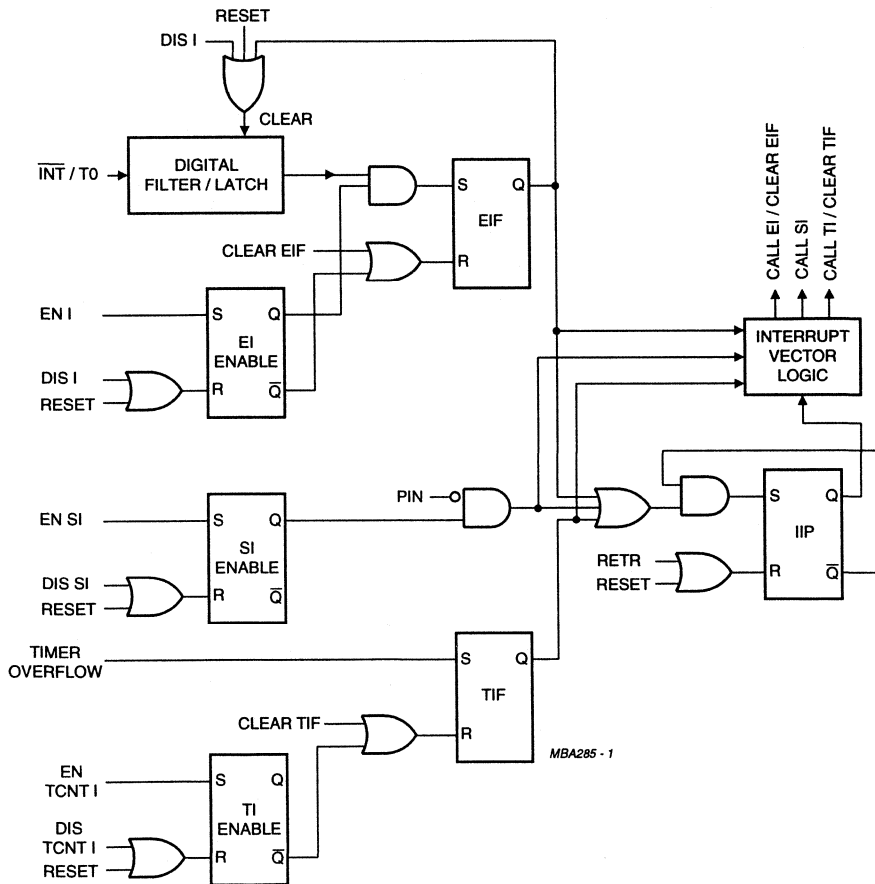

Fig.7 Simplified interrupt logic schematic (the R input overrules the S input for all flags).
An interrupt request is only sensed if the corresponding enable flag is set (see Fig.7). When the request is honoured, the contents of the Program Counter and bits 4, 6 and 7 of the Program Status Word are saved on the Program Counter stack. The Program Counter is loaded with the appropriate interrupt vector, thereby indicating the beginning of the interrupt routine. Since the Accumulator is not automatically saved, it must be saved and restored by user software. The interrupt routine must be terminated by the RETR (return and restore) instruction. At least one instruction of the main program will then be executed before another interrupt routine is entered. To avoid erroneous real-time programs, a few words of caution:
- Subroutines and nested subroutines called from the interrupt routine must all end with RET since RETR clears the Interrupt In Progress flag (IIP), as a side-effect (see Figs 7 and 8). Further pending interrupts would then interfere with the interrupt routine in progress.
A HIGH-to-LOW transition on the  $\overline{\text{INT}}/\text{T0}$  pin is latched in the digital filter/latch if the LOW state exceeds 7 clock periods after a HIGH state of more than 4 clock periods. If the external interrupt is enabled the External Interrupt Flag (EIF) is also asserted, thus constituting a valid external interrupt request. As soon as the IIP is clear, indicating that no interrupt routine is in progress, the external interrupt is invoked by a forced CALL to location 3. The EIF is simultaneously cleared (see Figs 7 and 8). The interrupt
If the timer/event counter interrupt is enabled, a timer/event counter 1 overflow sets the Timer Interrupt Flag (TIF). As soon as IIP is clear, meaning that no interrupt routine is in progress, the timer/event counter interrupt routine is invoked by a forced CALL to program memory location 7. The TIF is simultaneously cleared (see Figs 7 and 8). Execution of a DIS TCNTI (disable timer/event counter interrupt) instruction cancels a stored interrupt request by clearing TIF.